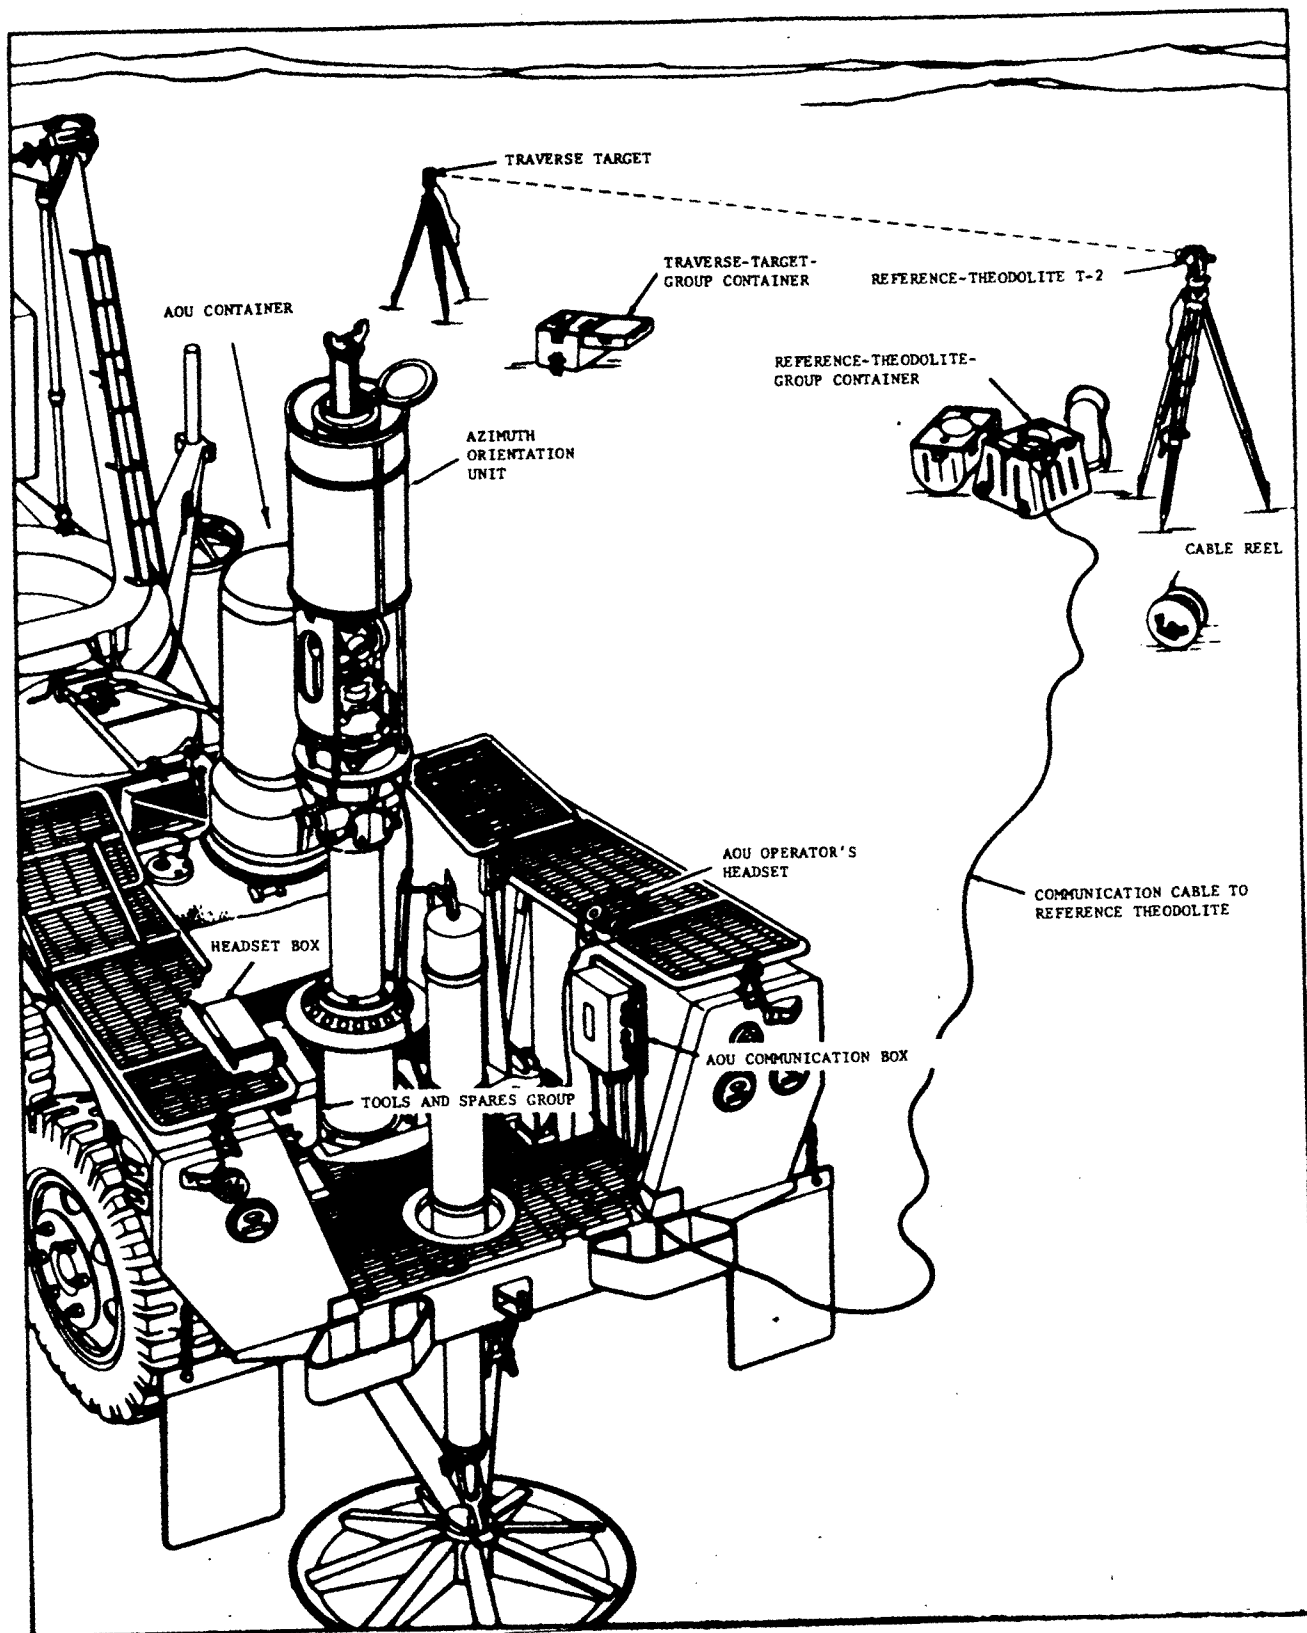

Figure 5. Azimuth orientation equipment.
a. There are two azimuth orientation system (AOS) operators in the firing section. The senior AOS operator normally is responsible for the operation of the azimuth orientation unit (AOU) on the launching station, and the AOS operator is responsible for the operation of the reference theodolite (figs. 5 and 6).
f. The AOS operators should follow the detailed instructions in TM 9-1440-301-12 for the orientation of the azimuth orientation unit (AOU) and associated equipment and refer to figures 5 and 6.